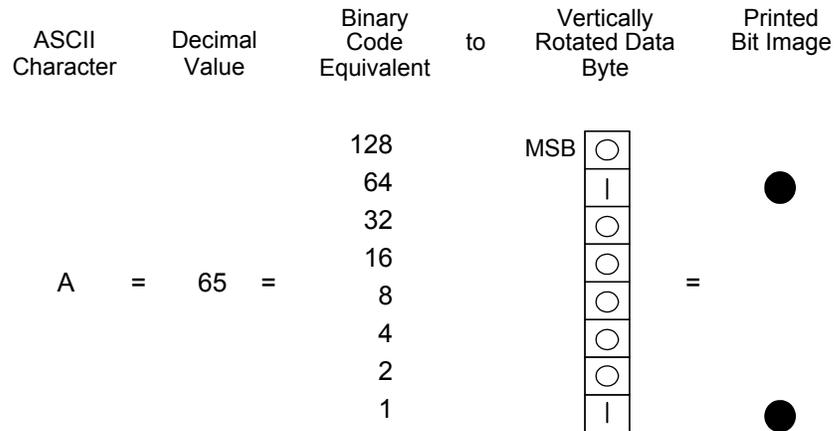
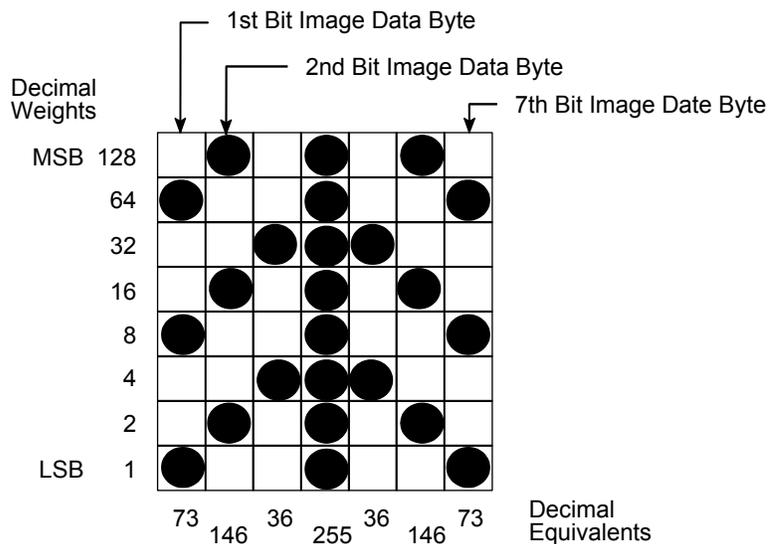

Figure 4. Bit Image Pattern from an ASCII Character
Figure 5. Bit Image Pattern Plan
The relationship between the ASCII character, its decimal value and its bit image plot is shown in Figure 4. All 8 bits of the data byte are used in all fonts, but some fonts have taller and shorter characters. (You may have to adjust the line spacing in order to print without horizontal gaps.) Data bytes are identified by their binary, octal, hexadecimal, or decimal equivalents. These numeric equivalents are combined in data streams to form graphic patterns such as the one illustrated in Figure 5.
1. On a quadrille pad or graph paper, lay out the graphic pattern you want to print. (See Figure 5.)